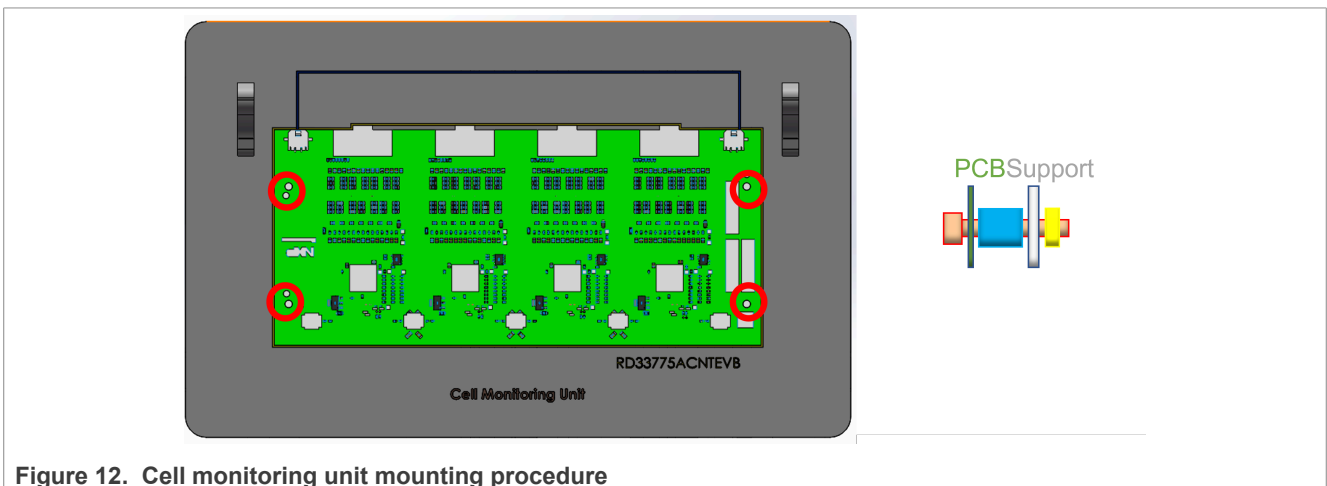

Figure 12. Cell monitoring unit mounting procedure
1. Mount the CMU to the bottom plate using four screws (280-78012), four standoffs (280-78015) and four nuts (280-76566) according to Figure 12.